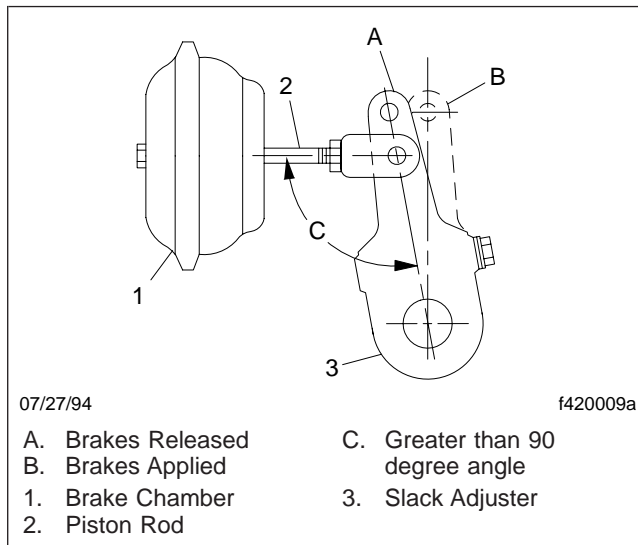

Fig. 2, Angle Between Piston Rod and Slack Adjuster
- With the slack adjuster properly adjusted, check the angle formed by the centerline of the piston rod and slack adjuster. This angle should be greater than 90 degrees in the released position and approach 90 degrees in the applied position. See Fig. 2.